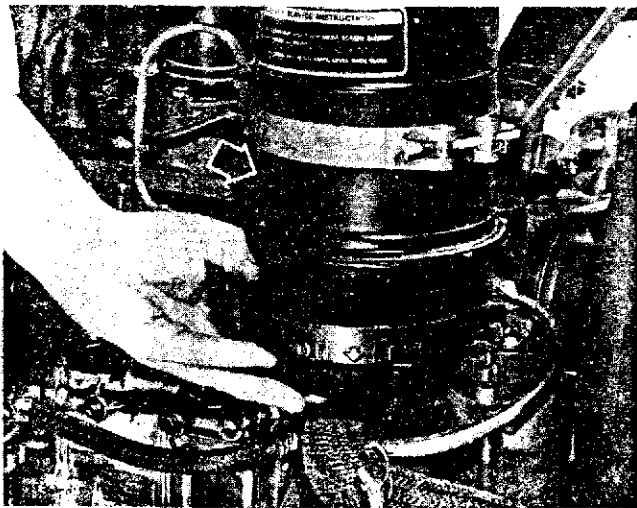

Figure 32 — Air Cleaner
1. Release the oil pan retaining clip and remove the oil pan, Figure 32.
**Cleaning the Air Cleaner Body:** The oil bath cleaner, Figure 32, should be removed from the tractor, disassembled, and cleaned every 600 hours.